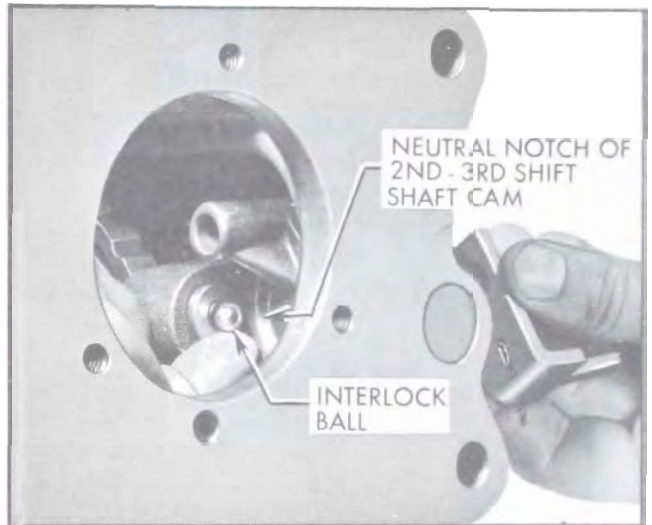

Figure 4-25—Installing Interlock Ball
5. Move first-reverse cam toward transmission housing. Install interlock ball and move cam back to original (normal) position allowing the neutral (center) notch of cam to retain ball. Install tapered shift shaft lock pin. See Figure 4-25.